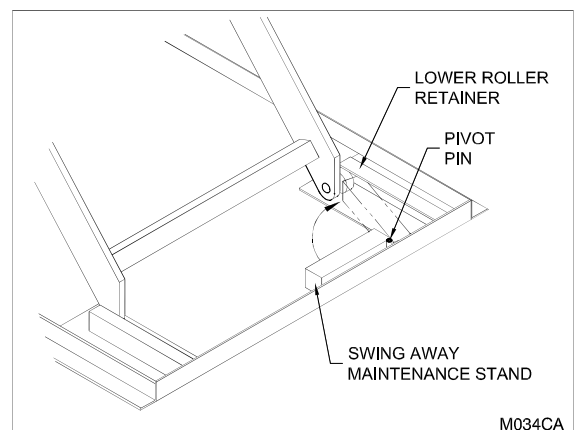

Figure 7: How to Support the Lift Table for Maintenance
2. Insert the drop-in style maintenance stand at the rolling end of the lift table into the path of the rollers, or use the swing away maintenance stand that pivots on a pin (only one of these maintenance stand configurations will be supplied). Swing the maintenance stand as far around as possible into the path of the rollers. (See "Figure 7: How to Support the Lift Table for Maintenance" on page 13)